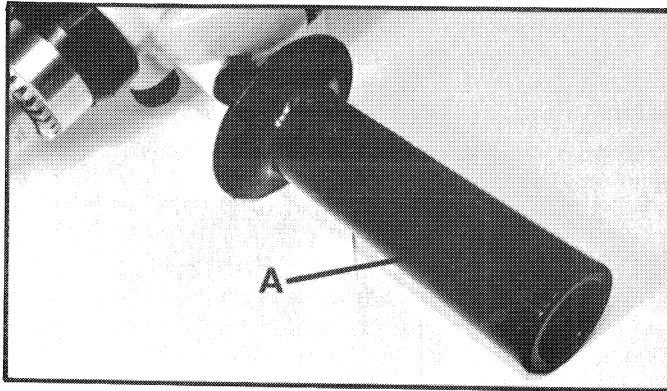
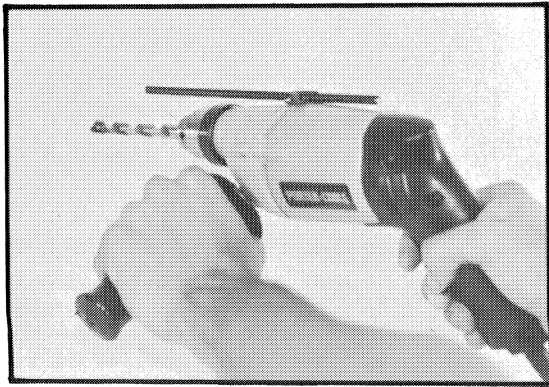

Fig. 5
Fig. 6
An auxiliary handle (A) Fig. 5 is furnished and screws directly into gear housing, providing complete control of the drill. This handle must be used and held as illustrated in Fig. 6 to prevent accidental electrical shock resulting from cutting a live wire when drilling into a wall or other blind areas.
WARNING: The front end of the drill may be made live if tool drills into live wiring in a wall. TO PREVENT ACCIDENTAL ELECTRICAL SHOCK, DRILL MUST BE HELD AS SHOWN IN Fig. 6.